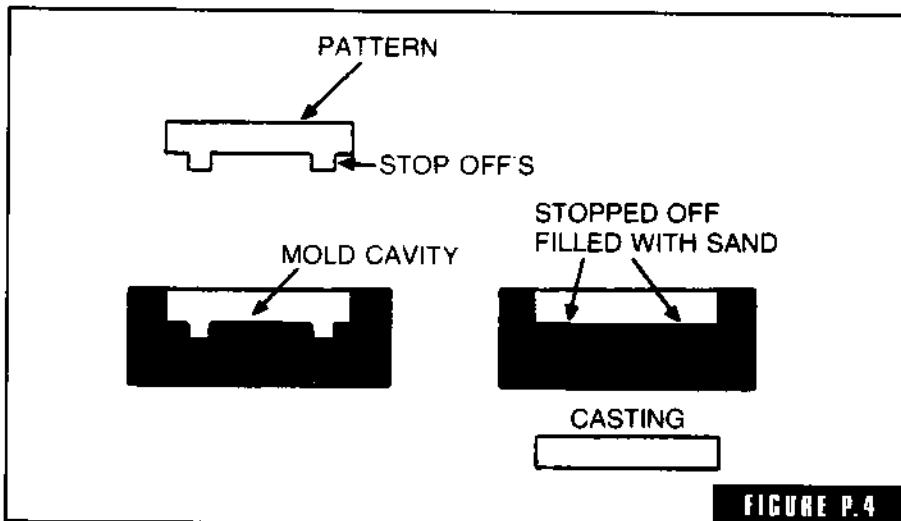

FIGURE P.4
- Black stripes diagonally on a yellow background—Stop-offs (Fig. P-4)